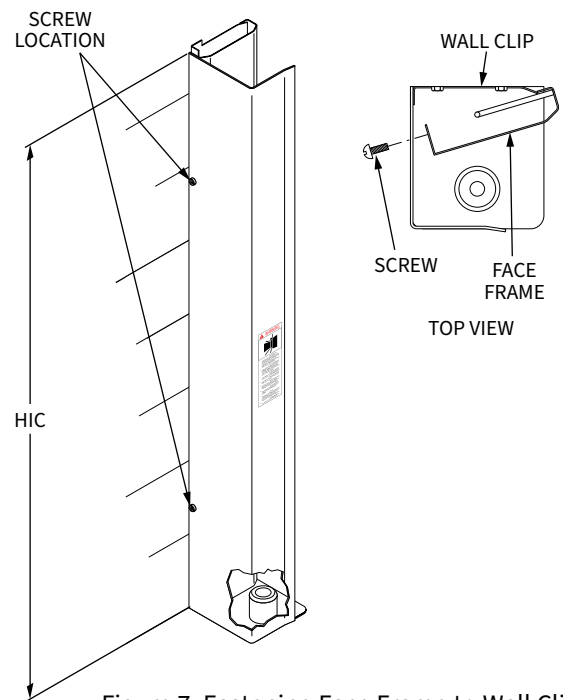
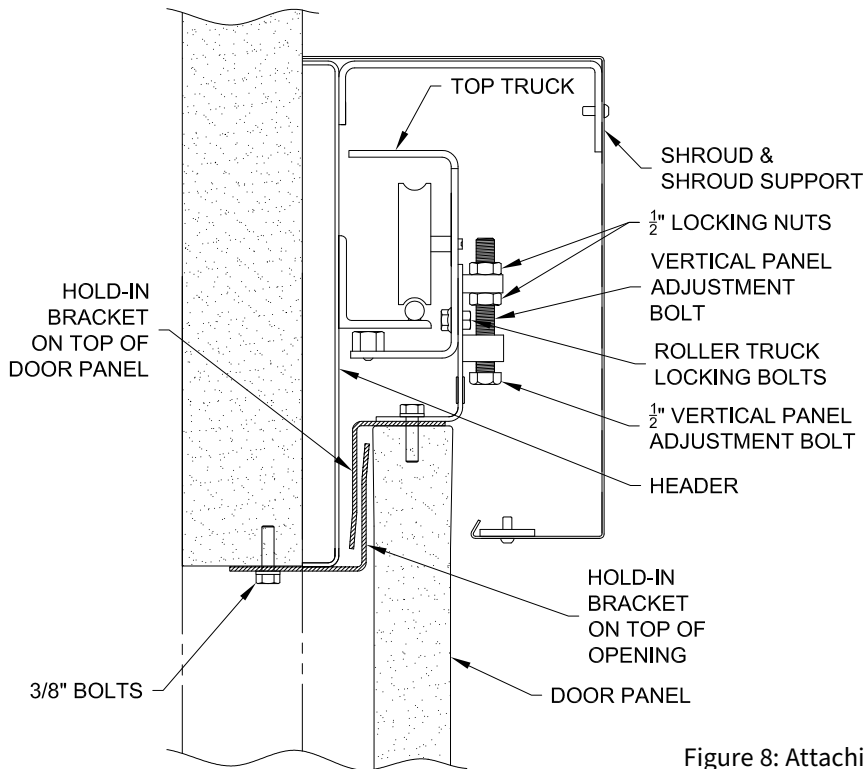

Figure 7: Fastening Face Frame to Wall Clip
Figure 8: Attaching Panel to Header
1. Remove the guide roller mounted at the base of the trailing edge face frame (Figure 7). With roller truck positioned in the center of the rail, slide the panel between the shroud support and roller truck. Lift panel over the roller mount at the base of the trailing edge face frame. Secure door panel to the roller truck with two vertical panel adjustment bolts ($1/2''-13 \times 3''$). Install four roller truck locking bolts ($3/8''-16 \times 3/4''$). Tighten roller locking truck bolts all the way down and then back them off one full turn (Figures 8 & 9).
6. Move door panel to closed position. Center door panel on lower truck by loosening horizontal panel adjustment bolts, moving the bolts to the middle of their slots and tightening them down (Page 10, Figures 8 & 9). At this time, hold-in brackets on door panel should also be adjusted so their screws are in the centers of their slots.
9. Position hold-in brackets such that the bent lip of the bracket sits between the door panel and its hold-in brackets (Figures 8, 11, & 12).
1. Position the door in the closed position. Loosen the two horizontal panel adjusting bolts securing the door panel to the lower roller truck (Figures 8 & 9). Loosen all screws securing trailing edge hold-in bracket to door panel.